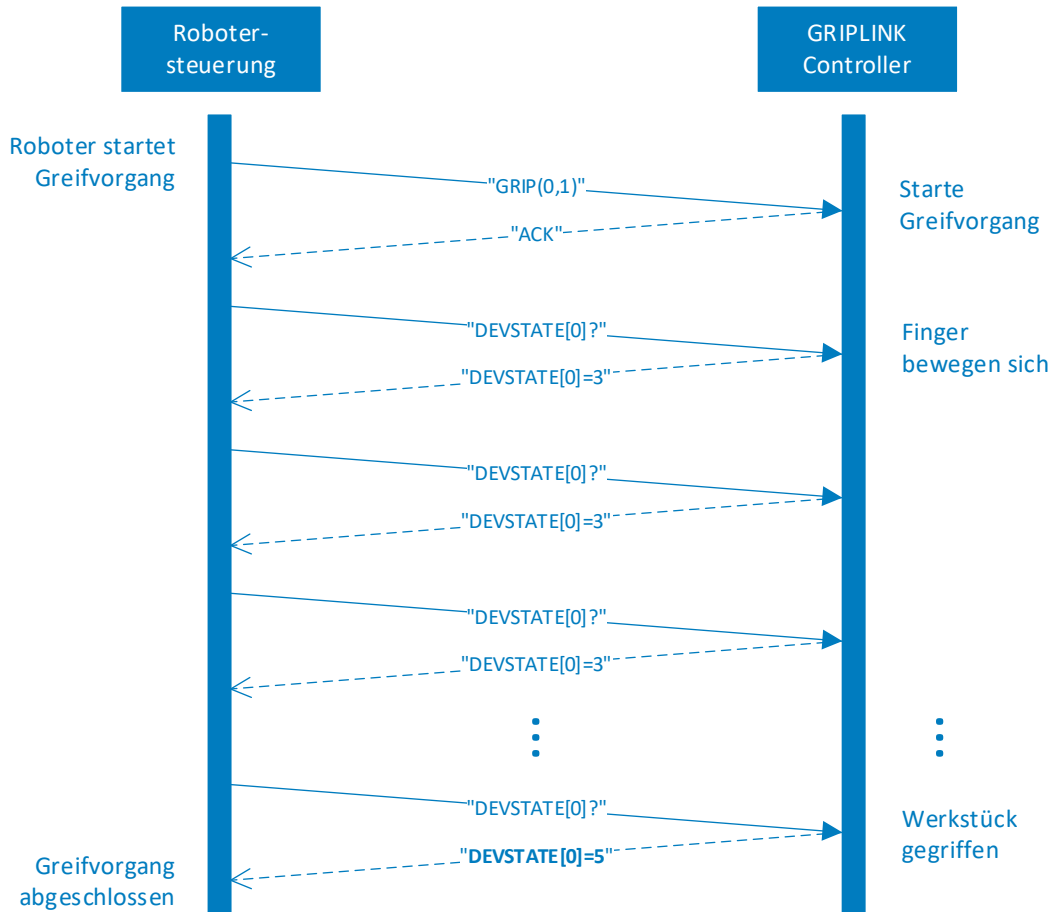

Figure 15 : Sequence diagram for a gripping process
A command is composed of the actual triggering of the action and the waiting for a change of state. This is shown in Figure 15 using the example of gripping a workpiece. The robot controller initiates the gripping command for the gripping module at device port 0 with parameter set 1 by sending the command word "GRIP(0,1)". The successful end of the gripping process is detected by cyclic polling of the device state with the command word "DEVSTATE[0]?" (device state changes from RELEASED (3) to HOLDING (5) ). Note: If no